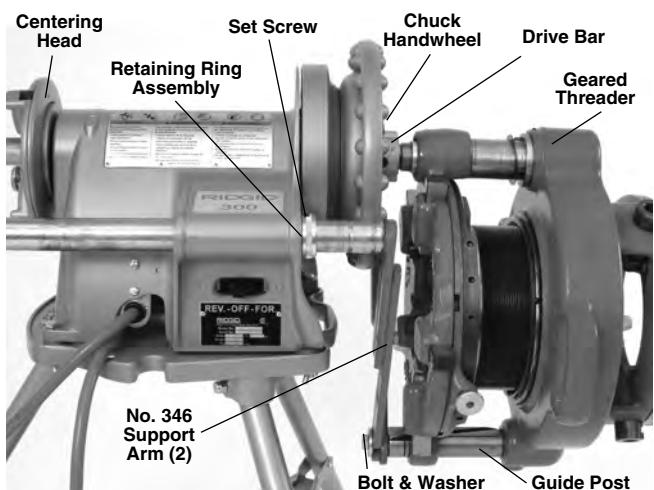

Figure 14 – Model 161 Geared Threader Close-Coupled to Power Drive
**Model 161** – Remove setscrew (plug) from threader guide post. Place the 346 support arms inside the ends of the Power Drive support bars. Pull out the Power Drive support bars so the ends of 346 support arms align with the end of 161 Threader guide post and retain with bolt and washer. Tighten the retaining ring assemblies on the Power Drive support bars to hold in place (Figure 14).